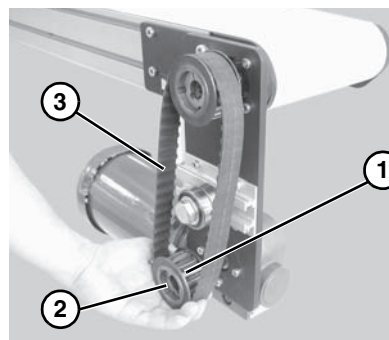
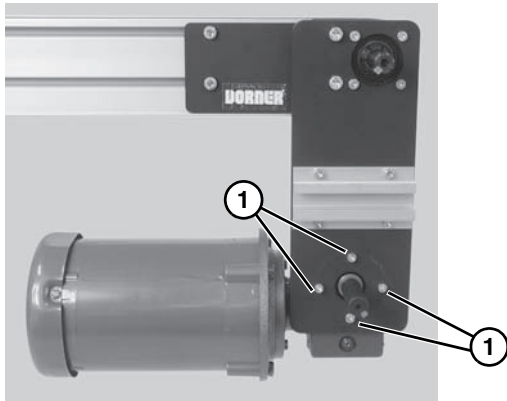

Figure 18
Figure 19
<p>If drive pulley (Figure 18, item 1) is replaced, wrap timing belt around drive pulley and complete step 3.</p>
5. Remove pulley (**Figure 18, item 1**), taper hub assembly (**Figure 18, item 2**), and timing belt (**Figure 18, item 3**).
- Remove four (4) gear reducer mounting screws (**Figure 19, item 1**). Remove gearmotor.
- Install gearmotor to mounting bracket and tighten screws (**Figure 19, item 1**) to 110 in-lb (12 Nm).
*If drive pulley (**Figure 18, item 1**) is removed. Wrap timing belt around drive pulley and complete step 13.*
3. Remove four (4) screws (Figure 18, item 1). Detach motor (Figure 18, item 2) from gear reducer (Figure 18, item 3). Retain motor output shaft key (Figure 19, item 1).
6. With key (**Figure 19, item 1**) in keyway, slide motor (**Figure 19, item 2**) and gear reducer (**Figure 19, item 3**) together.